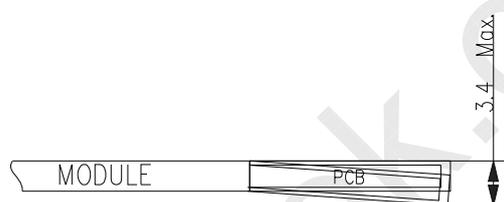

FIGURE 2
- 3-2. MODULE WITH PCB FLATNESS SPEC 3.4 MAX. (SEE FIGURE 2)